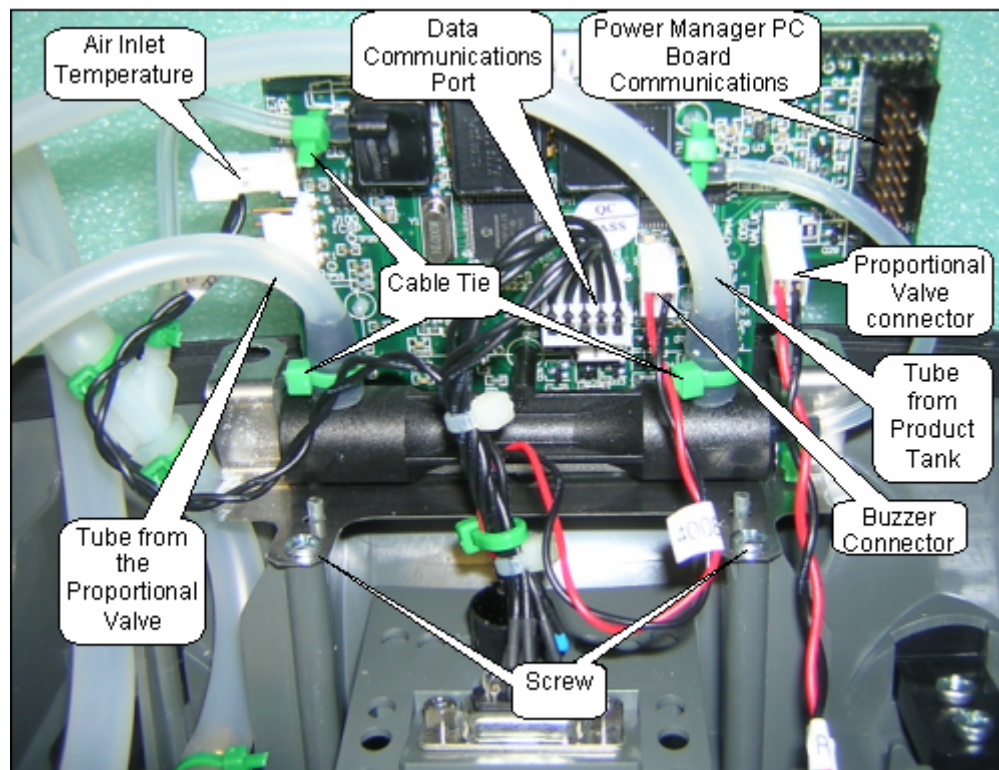
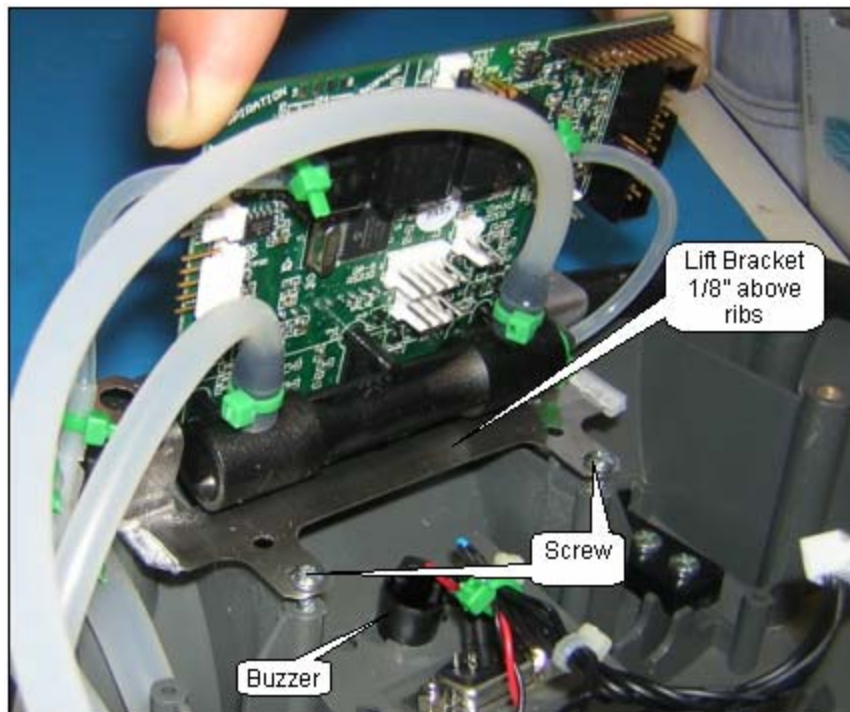

Figure 38: Control Module Removal (ATF Module not shown for clarity).
Figure 39: Control Module Installation.
2. Remove the 2 screws (M3x10 Plastite Screw, P/N 6950-310) holding the Control Module Assembly to the Unit Case as shown in Figure 38.
3. Lift the Control Module Assembly and disconnect the Inlet Air Temperature, Data Communications Port, Power Manager PC Board Communications, Proportional Valve wire harness, and Buzzer wire harnesses as shown in Figure 38.
4. Lift the control module out of the Unit. Cut the green cable tie to the silicone tube that is connected to the sensor as shown in Figure 39. Disconnect the silicone tube that is attached to the sensor. Cut the green cable ties to the silicone tubes that are connected to the flow tube as shown in Figure 39. Disconnect the silicone tubes that are attached to the flow tube.
7. To install a new Control Module Assembly, cut the cable tie used to pinch the silicone tube coming from the product tank. Attach this tube and the tubes from the Proportional Valve and from the Product Tank to the flow tube as shown in Figure 38. Secure with a cable tie. Connect the silicone tube to the sensor as shown in Figure 38. Secure with a cable tie. Place the 2 screws in the sheet metal bracket as shown in Figure 39. Inspect the tubing to ensure the tubing is not kinked.
8. Lower the Control Module Assembly into the Unit Case only to where the aligning pins go through the sheet metal bracket; make sure the sheet metal bracket is 1/8" above the supporting ribs – this will ensure the 2 screws stay in the bracket and do not fall in the unit case as shown in Figure 39. Start the 2 screws by turning them 2 times into the unit case. After starting **both** screws, lower the Control Module Assembly onto the supporting ribs; tighten the 2 screws to the unit case.
9. Connect the Inlet Air Temperature, Data Communications Port, Power Manager PC Board Communications, Proportional Valve wire harness and Buzzer wire harnesses as shown on Figure 38.